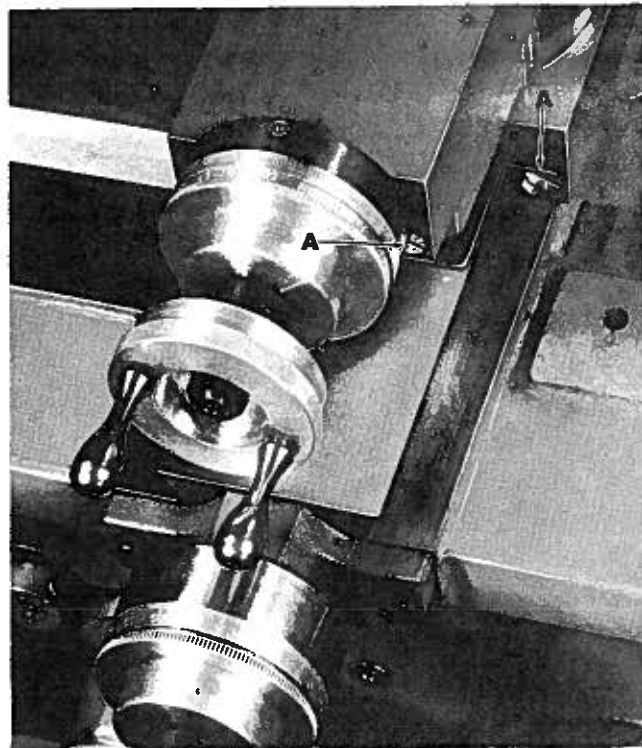

Figure 17
3. Turn front adjusting screw (A, fig. 17) until tight, then back off about one-half turn -- slide should move with a slight drag.